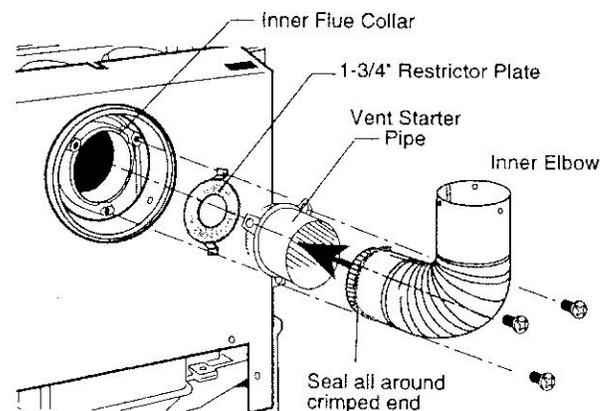

Figure 3-15. Install Restrictor Plate and Starter Pipe/ Inner Elbow assembly.
Note that all vertically terminated installations must use the 1 3/4" Restrictor Plate included in the hardware bag. The plate must be installed within the firebox Inner Flue Collar to insure that a proper air/fuel ratio is maintained in an appliance vented through the roof. See Fig. 3-15.
3. **Attach the Inner Elbow Pipe to the Starter Pipe.** Apply sealant to the crimped end of the inner elbow and attach it to the Starter Pipe with three sheet metal screws. See Fig. 3-15.
4. Install the Restrictor Plate and Starter/Inner Elbow Pipe assembly into the inner flue collar as using the three 1/4-20 x 1/2" phillips screws as shown in Fig. 3-15.